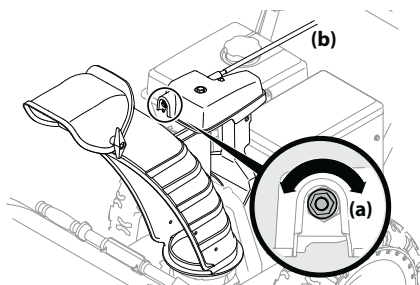

Figure 4-9
1. To increase preload, tighten hex nut (a) clockwise in  $\frac{1}{4}$  turn intervals. The chute control rod (b) will need to be held stationary when tightening the nut. See Figure 4-9.